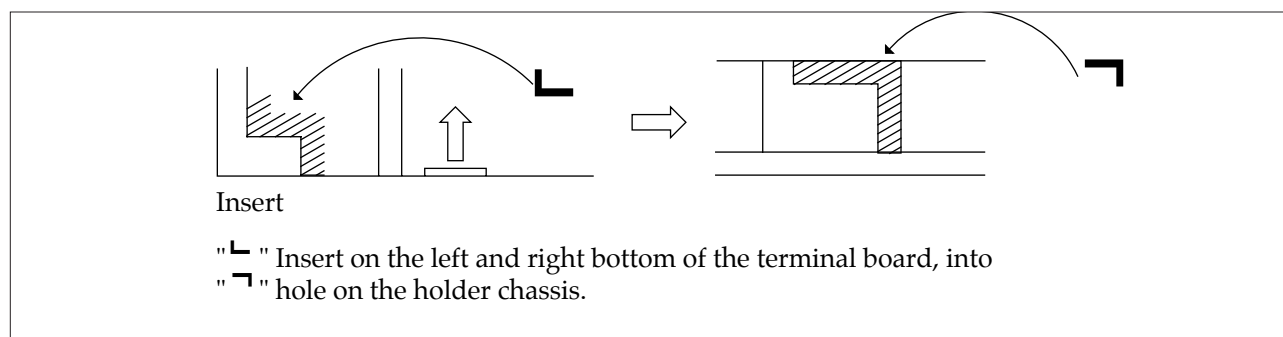

Fig. 4-6
4. To reassemble, refer to Fig. 4-6.